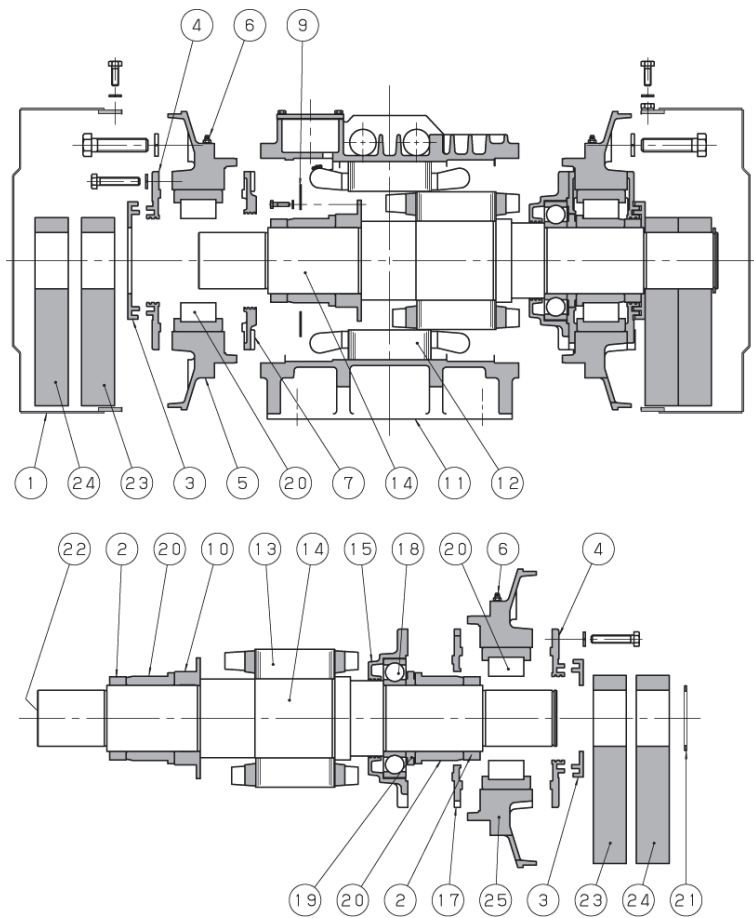

Fig. 10
Fig. 10 shows a disassembly of the vibrator shown in Fig. 4.
- (1) Loosen the screws securing the weight cover ①, then remove it.
- (2) Remove the snap ring ⑭, then follow steps (2) and (3) for disassembling the opposite side of the ball bearing.
Loosen the screws securing the bracket ⑤ to the frame ⑪, then remove the bracket with the shaft ⑬ and other parts from the frame shown in the upper drawing of Fig. 10 using the tapped holes in the bracket.
- (3) Loosen the screws securing the bearing cover ④ and thrust collar ⑰, then remove the bracket, bearing cover, thrust collar, and the outer race and rollers of the roller bearings ⑫ from the shaft ⑬, the dust collar ②, inner race of the roller bearings ⑫, distance collar ⑱, ball bearing ⑲, housing ⑮, rotor core ⑬ and sleeve ⑩ remaining on the shaft. The bearing cover and thrust collar are also removed from the bracket by the above operation.
- (4) Remove the outer race and rollers of the roller bearing ⑫ from the bracket ⑤ in the same manner as step ⑦ for disassembling the opposite side of the ball bearing.
- (5) Since the inner race is closely fitted to the shaft, warm the inner race to expand it using a burner, or by pouring warm oil over it, when removing it from the shaft using a pulley puller.